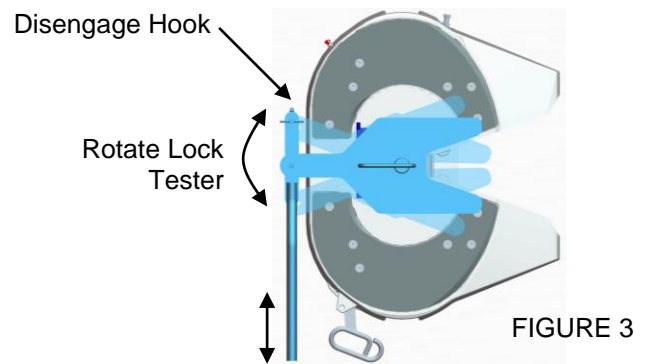

FIGURE 3
3. The lock is too tight if: The lock tester does not rotate freely when attempting to rotate it in the lock. (See figure 3)